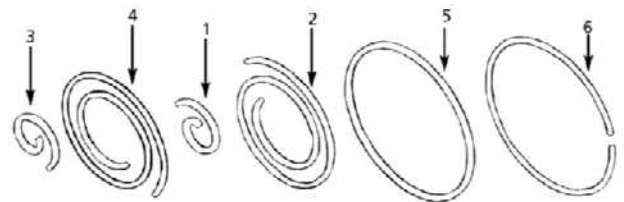

Figure 3. Tip Seal Kit Contents.
*Refer to Figure 3 for item numbers.